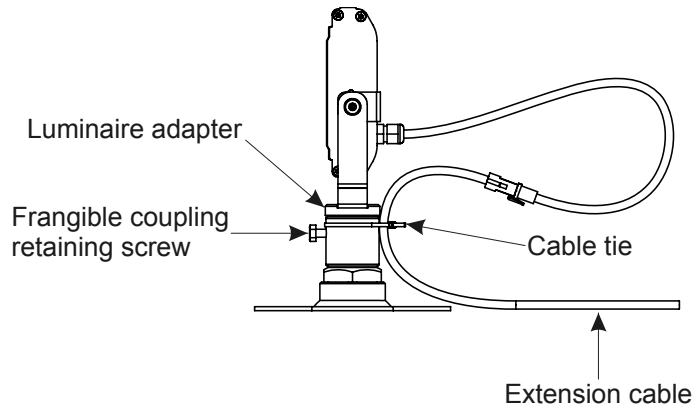

Figure 5-6: Securing the extension cable to the luminaire
6. Secure the extension cable(s) to the luminaire mount(s) using the supplied cable tie(s). Ensure that the cable tie is located between the luminaire adapter and the frangible coupling retaining screw; see Figure 5-6.